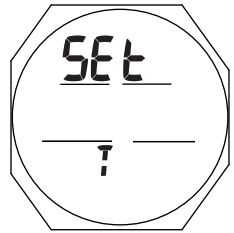

Fig. 16 - SET T LEAD-IN
**Set T Lead-in**, information includes (Fig. 16):